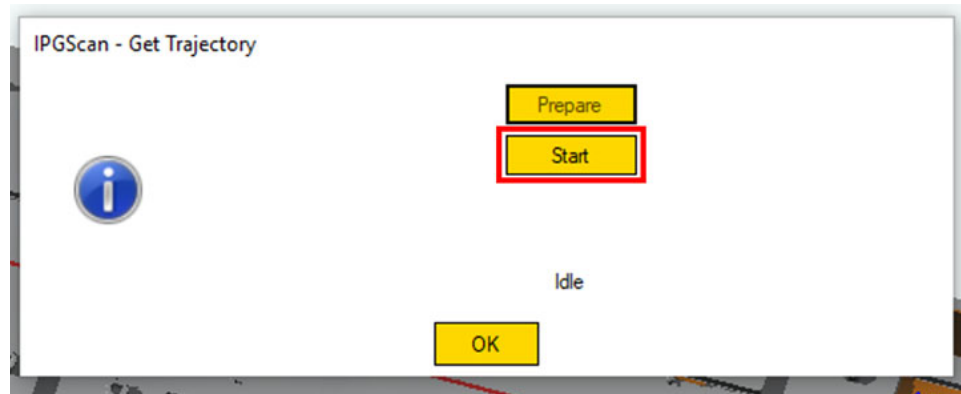

Figure 306: Starting Recording
4. Press "Start" to begin recording the trajectory in IPGScan. See Figure 306 (below).